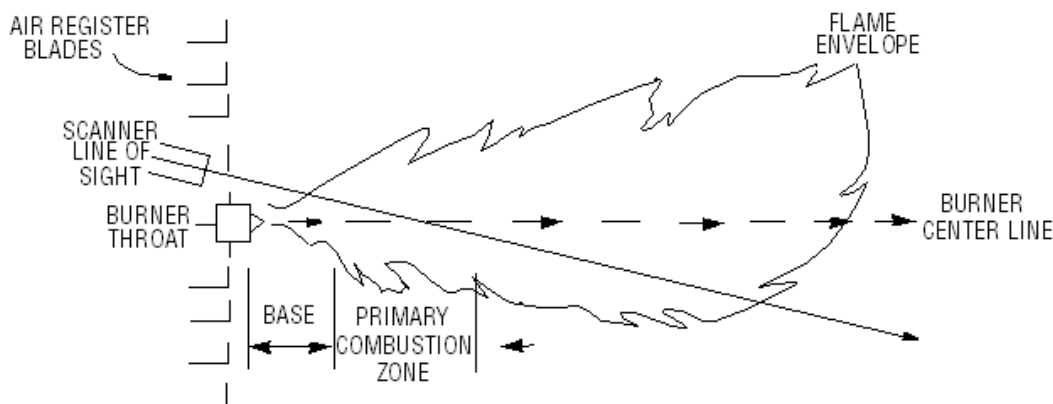
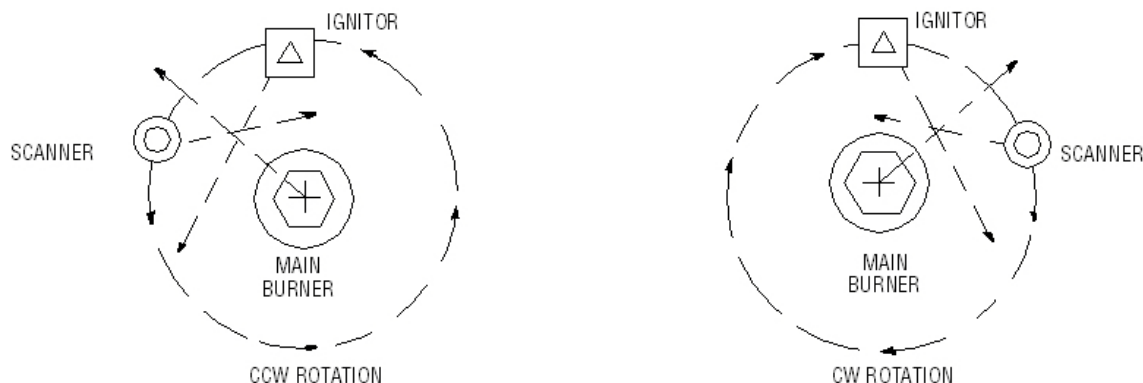

Figure 2-1 Single Burner Detector Sighting
Figure 2-2 Detector Location vs. Secondary Air Rotation
1. The best results are obtained when the detector is aimed so that the detector's line of sight intersects the burner center at a slight angle (e.g. 5 degrees) and sees a maximum of the primary combustion zone, as shown in Figure 2-1 Single Burner Detector Sighting. If only one detector is used per burner, the line of sight should also intersect the igniting flame.
- Consideration must be given to burner secondary air rotation, some burners have clockwise (CW) air rotation and others have counterclockwise (CCW) air rotation. If combustion air enters the furnace with a rotational movement of sufficient velocity to deflect the igniter flame in the direction of rotation, position the detector 10 to 30 degrees downstream of the igniter as shown in Figure 2-2 and close to the periphery of the burner throat (See Figure 2-1).